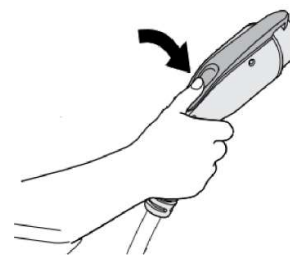

Fig.6-5 Pick off the charging connector
- b) Pick off the charging connector and is shown as Fig. 6-5.